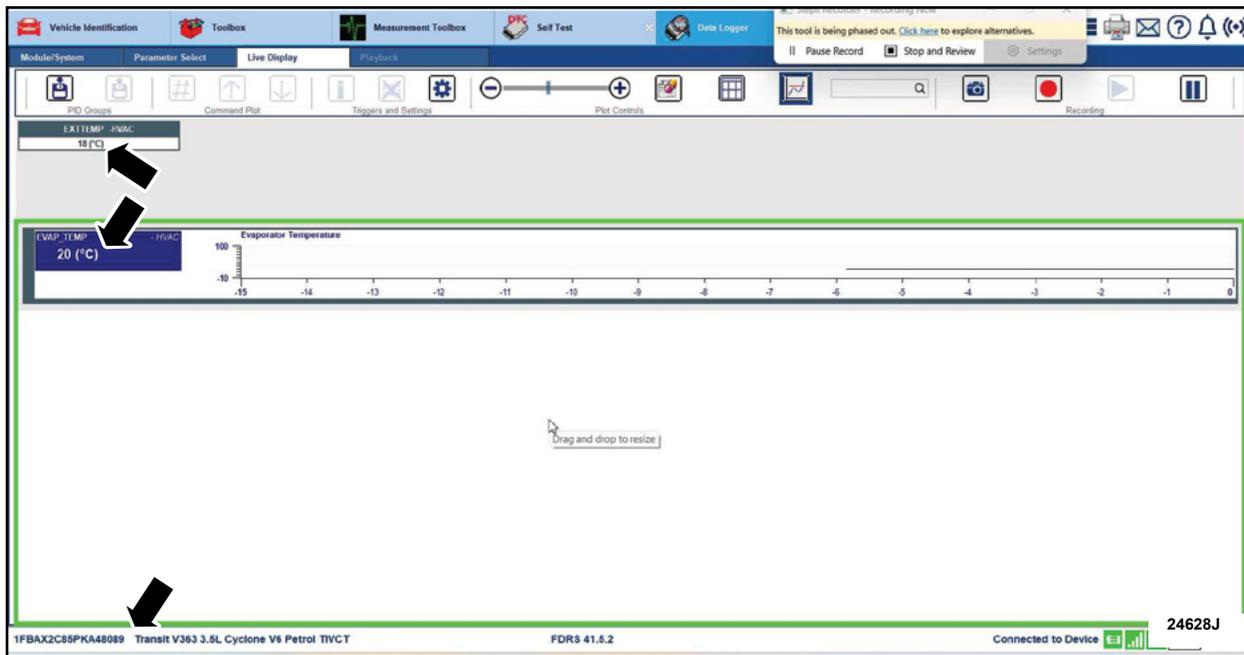

FIGURE 12
22. Record the evaporator and external temperature on the repair order. See Figure 12. Compare the external temperature and the evaporator temperature to the chart shown below. If the evaporator temperature is at or below the target temperature shown, the vehicle passes inspection.